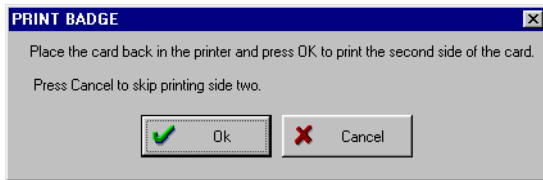

Figure 37: Two-Side Print Badge Window
- When you are ready to print the badge, click the  button. After a several second delay, the badge is printed. If you are printing a double-sided badge on a single-sided printer, the first side will be automatically sent to the printer and the Two-Side Print Badge Window will appear (see Figure 37). Once the first side has been printed and you have flipped the badge over, click the  button to print the second side.